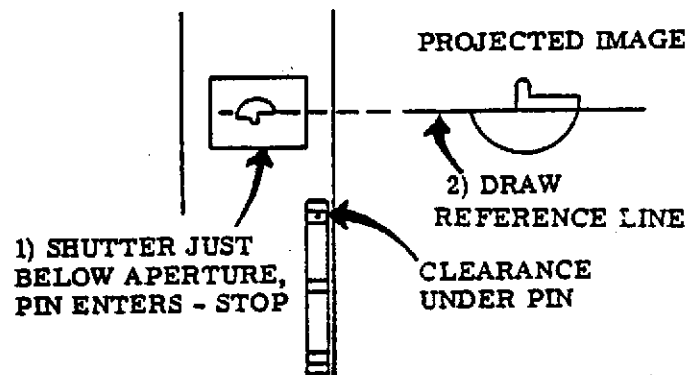

Figure 3-73. CLAW PULL DOWN STROKE SET UP
- f. Turn the Lamp on and project an image at least 8" wide (a wide angle lens will help achieve this width at a shorter projection distance), raise the elevation approximately 1" (this will get you set up in case the Stroke is in need of adjustment), and draw a reference line the full width of the Target on the bottom step (Figure 3-73).